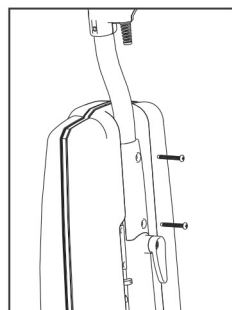

Fig. 4
4. Place the handle bracket back into position (Fig. 4).